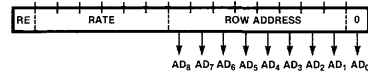

Figure 8-1. Refresh Control Register
- When the Refresh Enable (RE) bit in the CPU Refresh Counter is set to one (Figure 8.1), memory refresh is performed periodically at a rate specified by the RATE field in the counter. (See Section 8.3.)